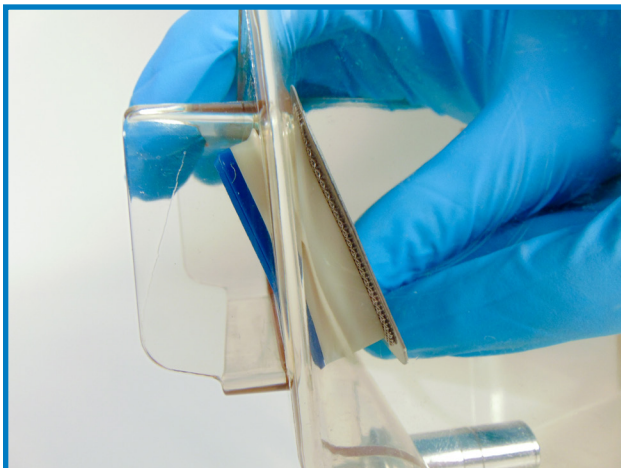
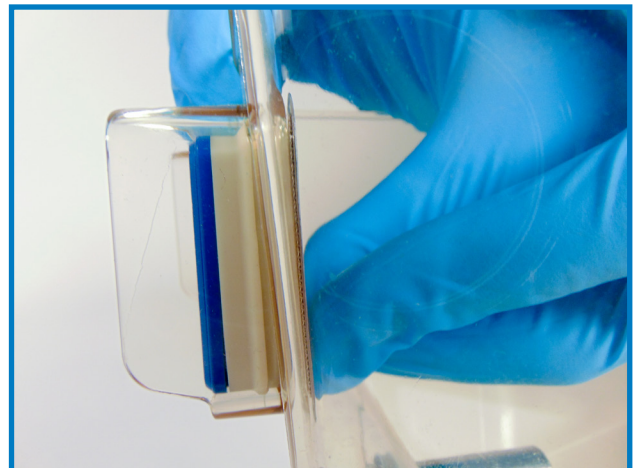

Figure 2
Figure 3
3. Push the top portion of the filter into the opening until it seats (Figure 2). Push the bottom portion of the filter into the opening until it snaps into place (Figure 3).